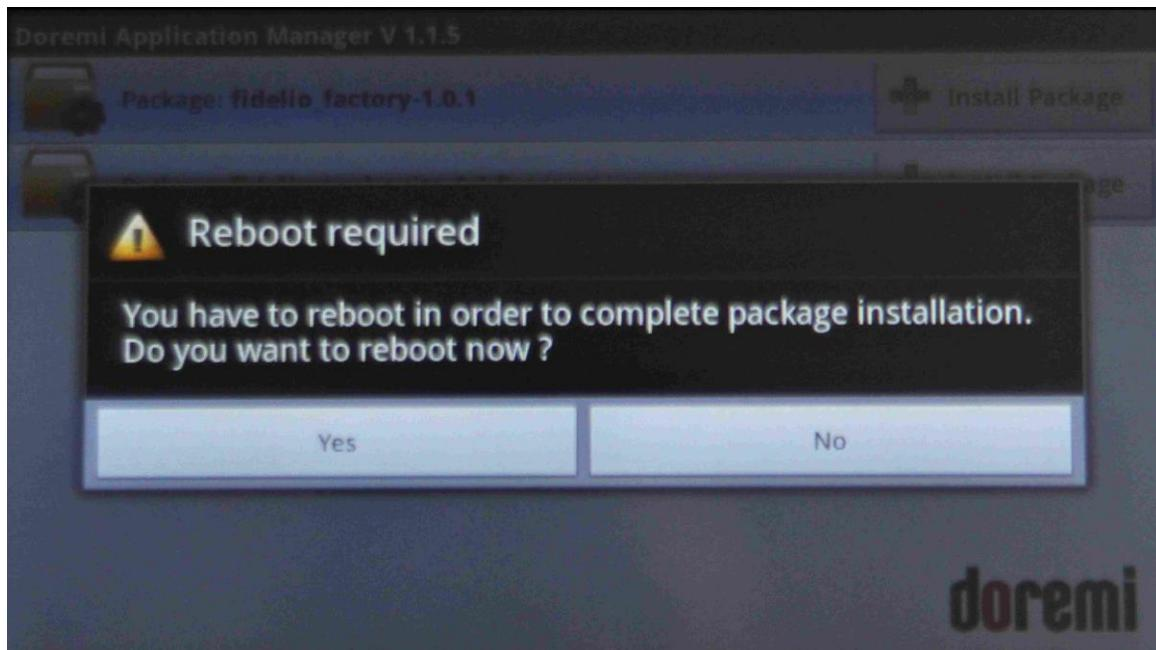

Figure 75: Reboot Warning
- Select Yes and then remove the USB key (Figure 75). The tablet will reboot.